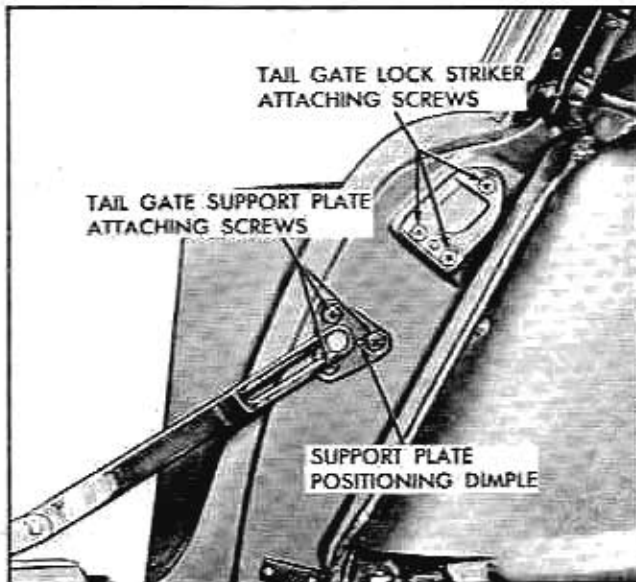

Fig. 4-21 Support and Lock Striker
3. Remove tail gate support attaching screws securing support plates to body and tail gate (Fig. 4-21 and 4-22) and remove support assembly.
4. To install tail gate support assembly, reverse removal procedure. Install support plate to body with positioning dimple towards front of body (Fig. 4-21).
4. Remove tail gate lock attaching screws (Fig. 4-21) and remove tail gate lock with attached connecting rod from tail gate; then detach connecting rod from lock.